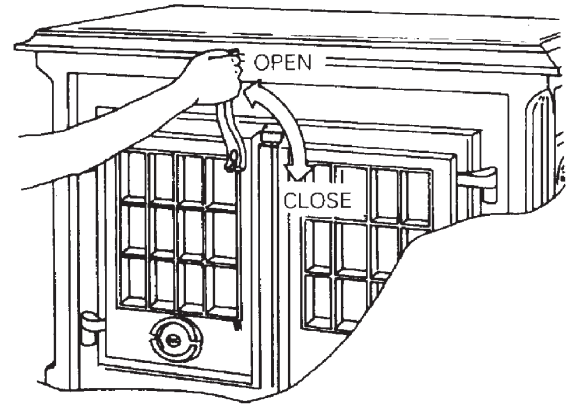
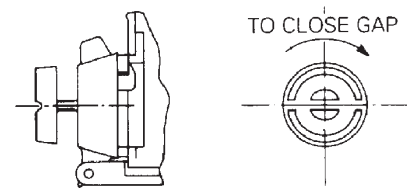
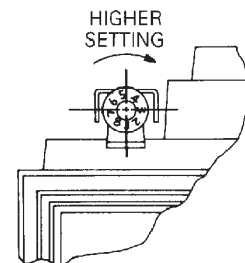

Fig.1
Fig.2a
Fig.2b
- Open the firedoors with operating tool. Fig. 1.
- Close and lock both firedoors. See Fig. 1 and set the ashpit door spinwheels to maximum. Fig. 2a.
- Close and lock the firedoors, Fig. 1 with the operating tool.
- Adjust the ashpit door spinwheels, Fig. 2a to give the desired rate of burning.
- Close and lock both firedoors. See Fig. 1 and set the thermostat knob to high (No.8). Fig. 2b.
- Close and lock firedoors, Fig. 1 with operating tool.
- Adjust the thermostat knob, to give desired rate of burning. Fig. 2b.
Maximum burning rate is obtained with both ashpit door spinwheels set at maximum. Minimum burning rate is half turn open. Adjust as necessary to suit the fuel and the heating required. Fig. 2a.
Adjust as required to suit the fuel and the heating required. See Fig. 2b.